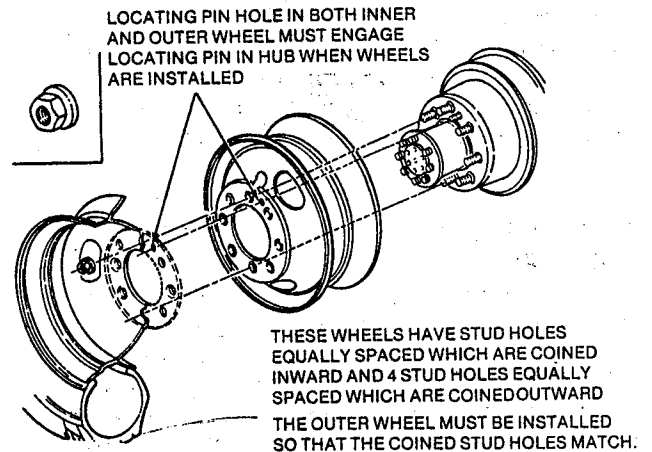

FIGURE 1-14 Dual wheel mounting
Wheels are supplied with four (4) equally-spaced stud holes which are coined inward and four (4) equally-spaced stud holes which are coined outward. The outer wheel must be installed so the coined stud holes match the coined stud holes of the inner wheel. Line up wheels with locating pin (Figure 1-14 and 1-15).